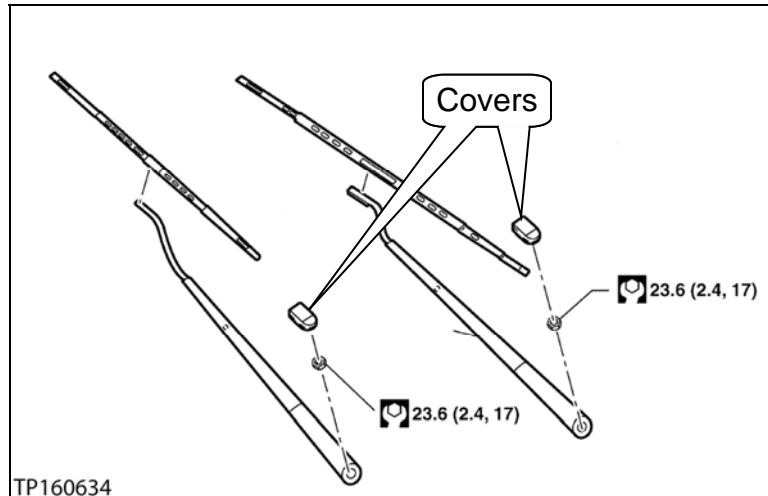

Figure 5
- b. Remove the wiper arm covers (see Figure 5).